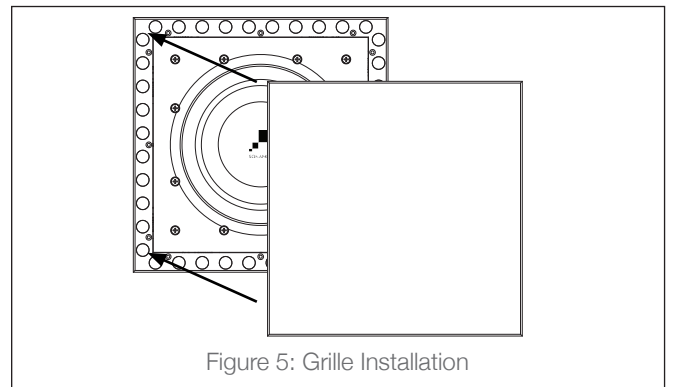

Figure 5: Grille Installation
3. Install the grille on to the grille mounting frame. The powerful Neodymium magnets will attract the grille very quickly. Care should be taken to align the grille correctly before placing it close to the grille mounting frame (see Figure 5).